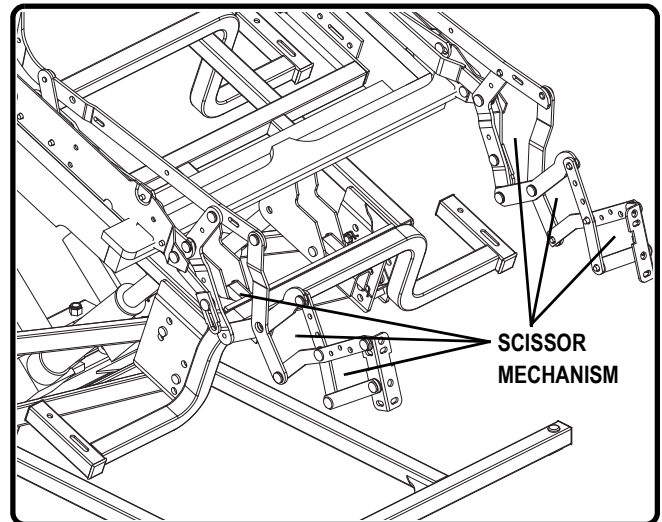

Figure 3.3 Scissor Mechanism
**Scissor Mechanisms:** Extend or retract to take the chair through the various stages of recline (Fig. 3.3).